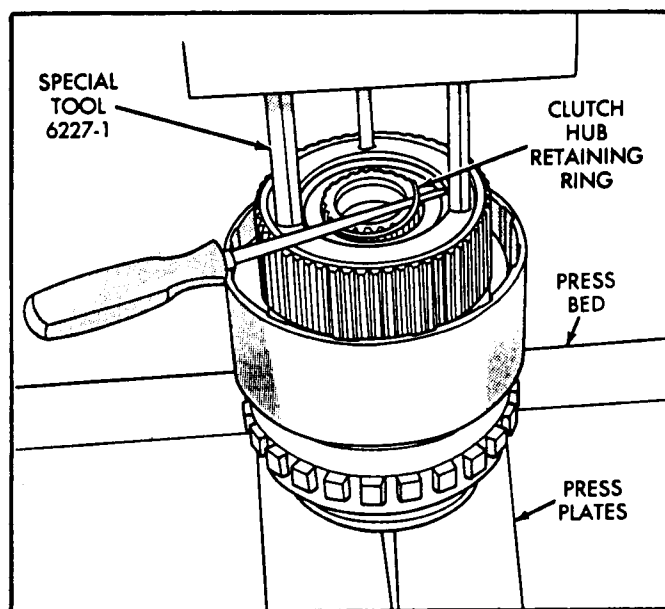

Figure 13
18. Remove the direct clutch hub retaining ring, as shown in Figure 13.